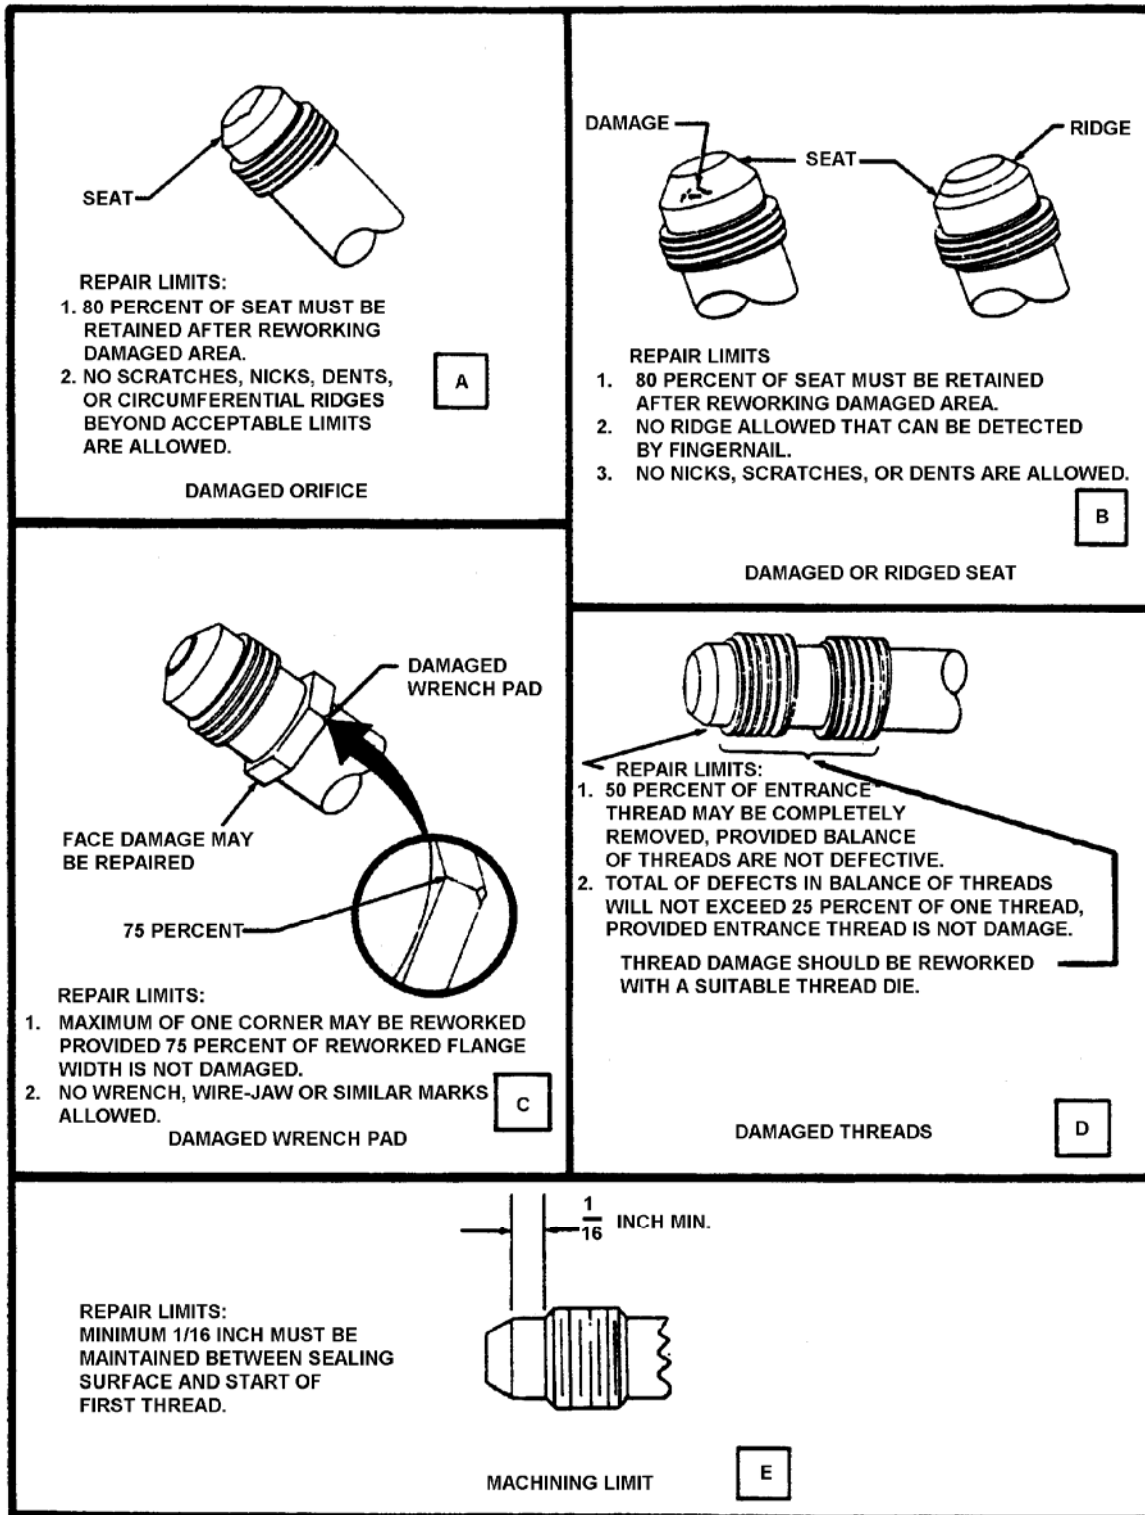

Figure 14. Reworking Damaged Fittings
Fittings that exceed repairable limits as defined in Figure 14 shall be replaced.
- a. Damaged orifice (Figure 14, detail A).
- b. Damaged or ridged seat (Figure 14, detail B).
- c. Damaged wrench pad (Figure 14, detail C).
- d. Damaged threads (Figure 14, detail D).
a. To repair damaged orifices, remove any restriction in the orifice and handstone to blend rough edges or burrs (Figure 14, detail A).
b. To repair damaged or ridged seats, resurface circumferential ridges with annular tool (Figure 14, detail B).
c. To repair damaged wrench pads, remove minor scratches with a fine file, leaving no file marks (Figure 14, detail C).
d. To resurface the 37-degree sealing surface, a minimum distance of 1/16 inch (.063) shall be maintained between the 37-degree sealing surface and the start of the first thread (Figure 14, detail E). Fitting threads shall conform to pitch diameter tolerance of class 2, MIL-S-7742.